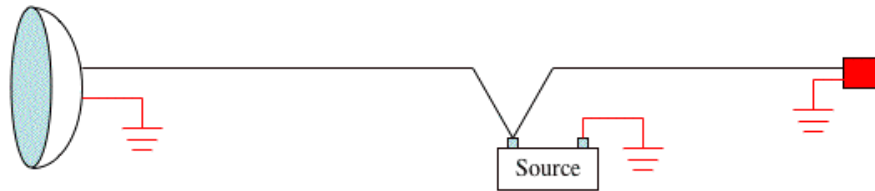

Fig. 2: Typical 1950’s wiring using the frame as the return path
- As you can see from Fig 2, there’s the risk of a bad connection going “into” the frame, then another coming back “off” the frame.